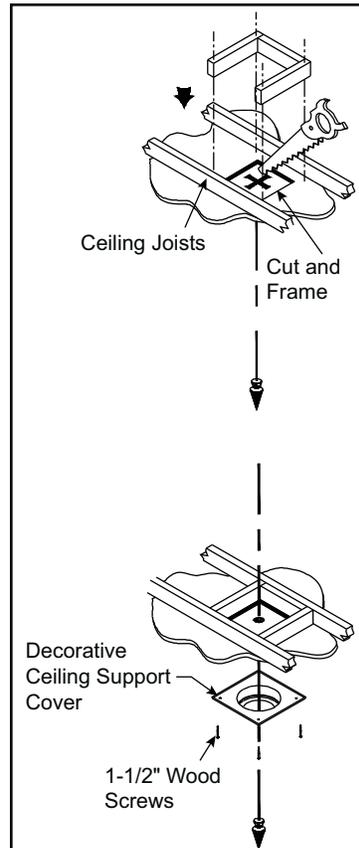

Figure 3.33
**Step 3** - To install the round ceiling support/wall thimble cover in a flat ceiling, cut a 10" x 10" (254 x 254 mm) square hole in the ceiling (unless otherwise specified) centered on the hole drilled in Step 2. Frame the hole as shown in Figure 3.33.